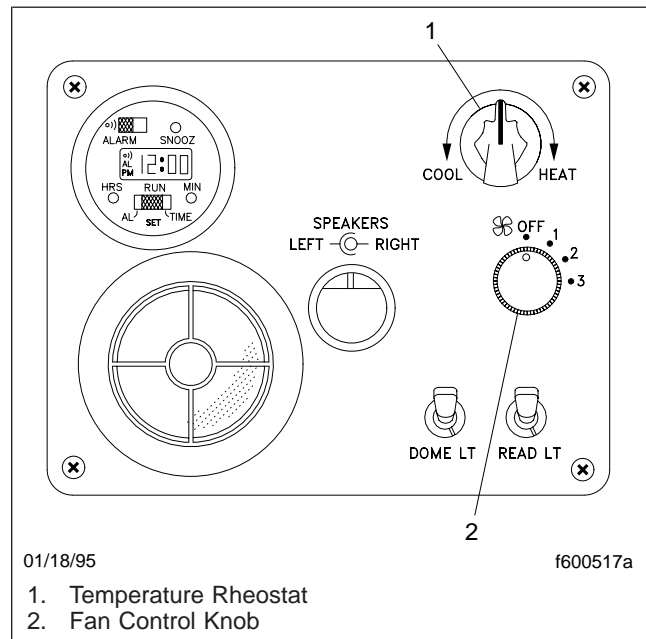

Fig. 4.11, Control Panel for Automatic Temperature Control System
2. If equipped with either the Red Dot constant temperature control (CTC™) system, or the Behr automatic temperature control system (Fig. 4.11), do the following: